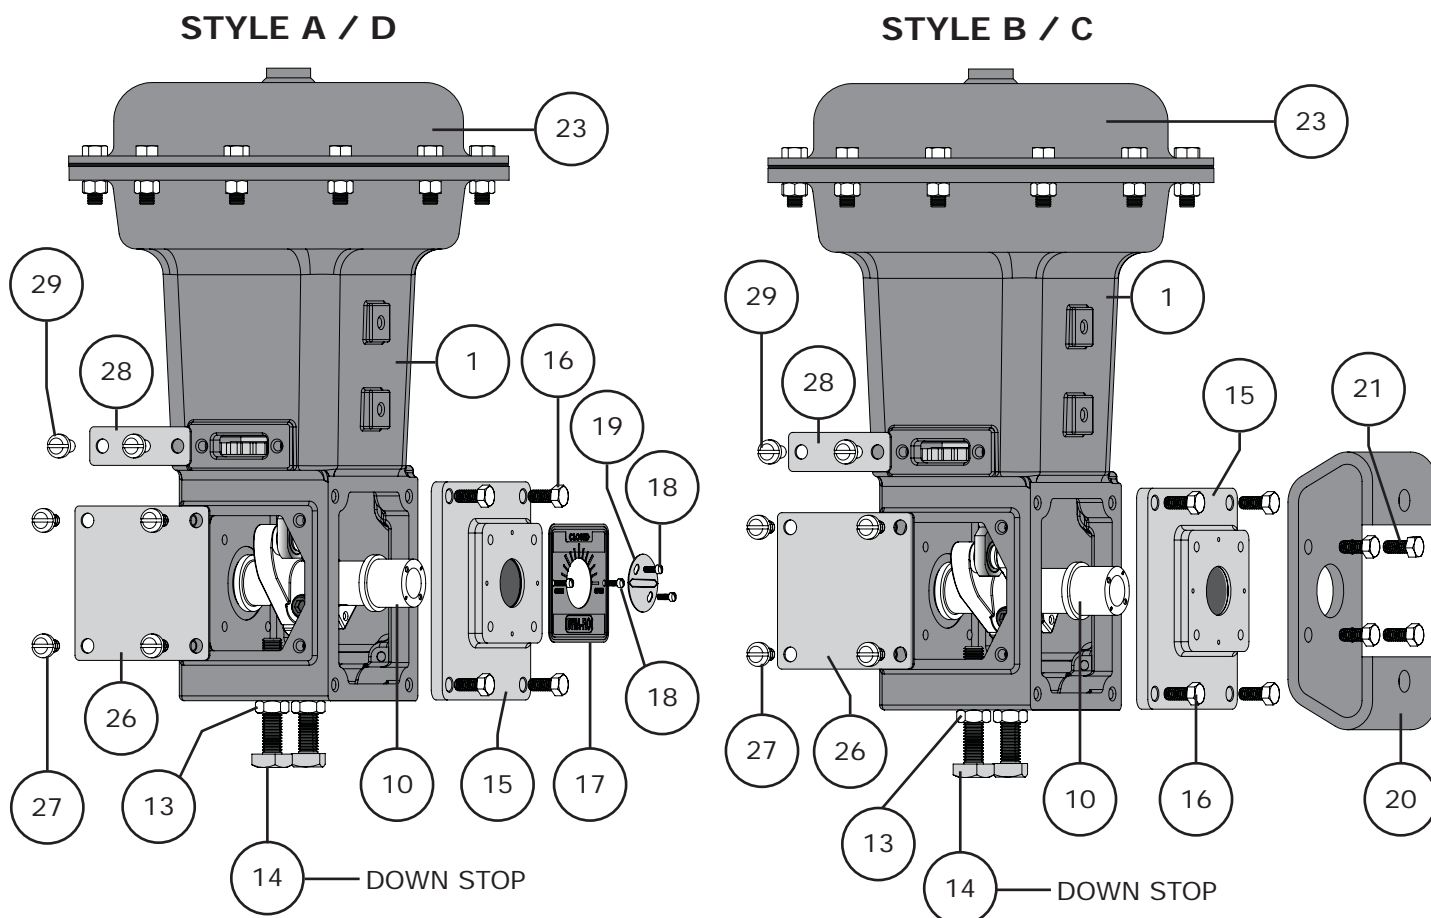

Figure 23 Housing Cover / Mounting Yoke Installation
- A Install the travel scale (Key 17) onto the housing cover (Key 15) using the machine screws (Key 18) as shown in Figure 23.
- B Install the travel indicator (Key 19) onto the lever (Key 10) using the machine screws (Key 18). Position the travel indicator to point to the closest desired fail position. Refer to Figure 23 and 24.
- C Determine desired mounting orientation (Figure 9). Install the mounting yoke (Key 20) onto the actuator housing (Key 1) using the cap screws (Key 21). Tighten the cap screws to the torque specification listed in Table 4. Refer to Figure 23.
- A Determine desired mounting orientation (Figure 9). Install the mounting yoke (Key 20) onto the housing cover (Key 15) using the cap screws (Key 21). Tighten the cap screws to the torque specification listed in Table 4. Refer to Figure 23.
- B Install the travel scale (Key 17) onto the actuator housing (Key 15) using the machine screws (Key 18). Refer to Figure 23.
- C Install the travel indicator (Key 19) onto the lever (Key 10) using the machine screws (Key 18). Position the travel indicator to point to the closest desired fail position. Refer to Figure 23 and 24.
- 13** Proceed to the Spring Adjustment – Initial Set section of this manual (Page 7). Once the spring adjustment has been completed, install all the cover plates (Keys 26, 28, & 30). Refer to Figures 23 & 24.